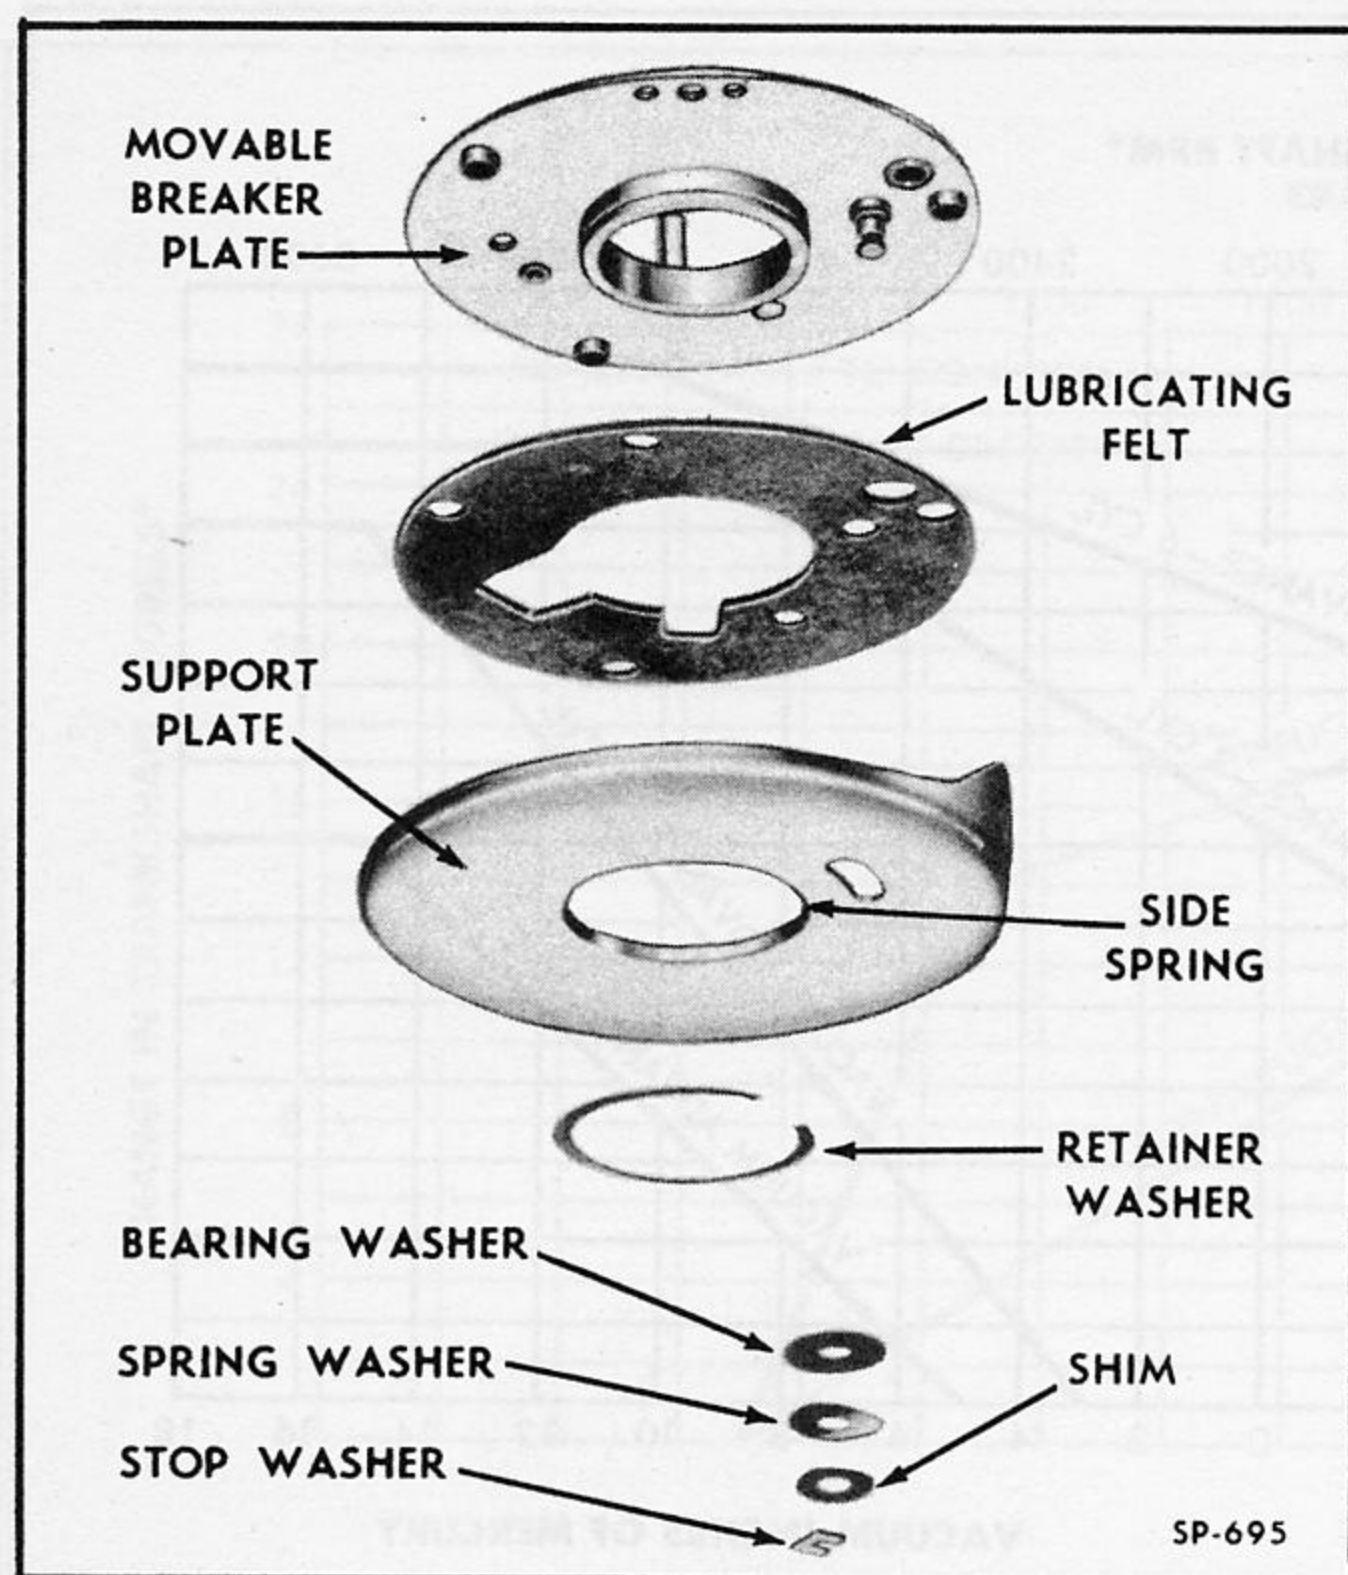

Fig. 300—Delco-Remy Distributor Breaker Plate—Exploded View
8. Remove the stop washer (Fig. 300), shim, spring washer and bearing washer from stop stud extending down through support plate. Remove retaining washer and separate breaker plate, lubricating felt and support plate. Do not dislodge or lose the small side spring in support plate.
ounces. Adjust this drag by adding shims as necessary between the stop-washer and the spring on the breaker plate stud (see Fig. 300).